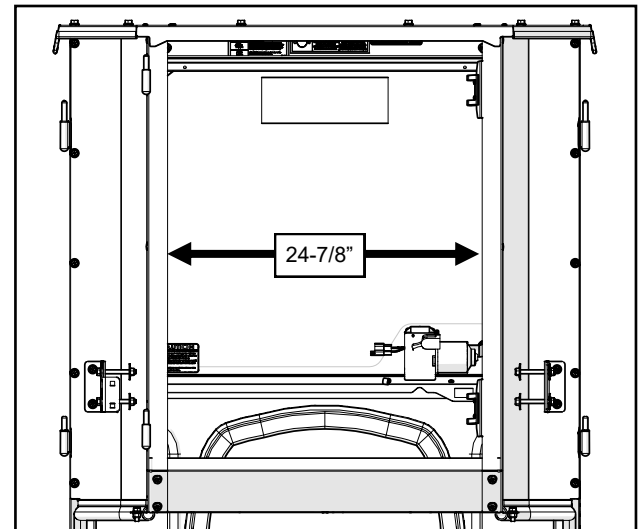

Fig. 11.1 (Measure Rear Legs Left to Right)
- 11.1 Measure the back of the rear legs, inside to inside, and adjust the width to 24-7/8". Measure corner to corner for squareness, and **tighten the (8) sets** of screws and nuts to lock in this width. See figure 11.1